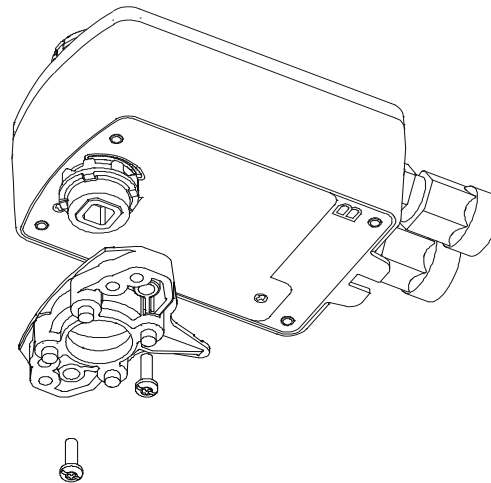

Figure 10: Installing the Linkage
4. Install linkage base on Side B using the two #8-32 x 0.625 in. long screws (Figure 10). The recommended torque is 29 to 33 lb-in. (3.3 to 3.7 N·m).